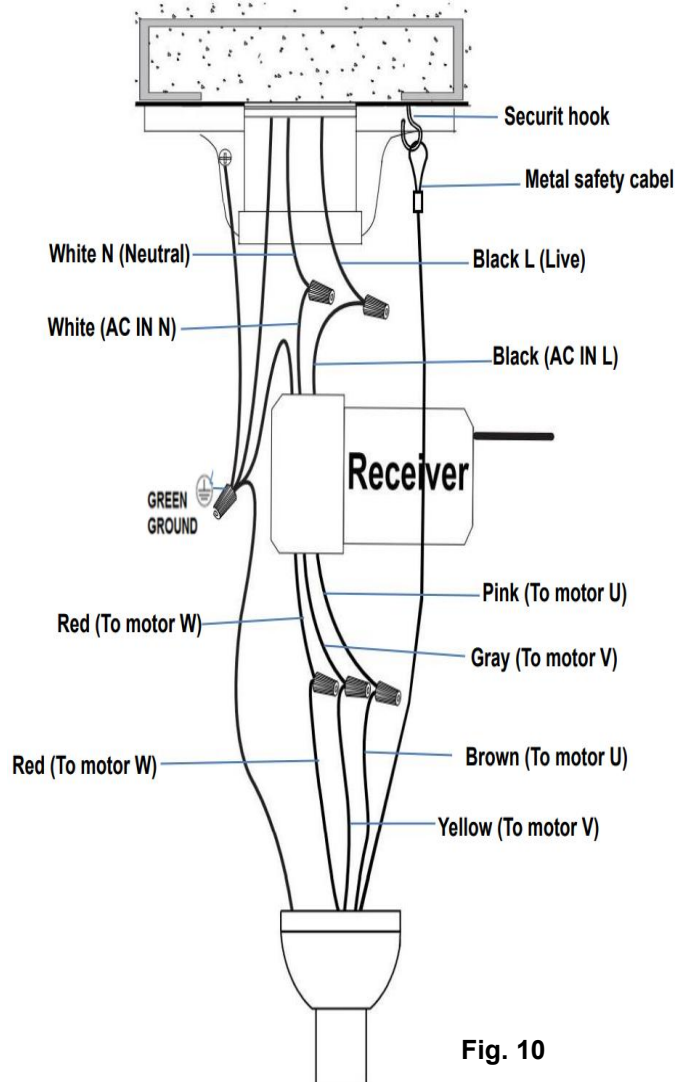

Fig. 10
- Complete the electrical wiring according to the 'ELECTRICAL WIRING DIAGRAM' section below. (Fig.10)
2. Connect the household live supply wire (black) to receiver input wire (black, AC IN L) as shown in (**Fig. 10**)